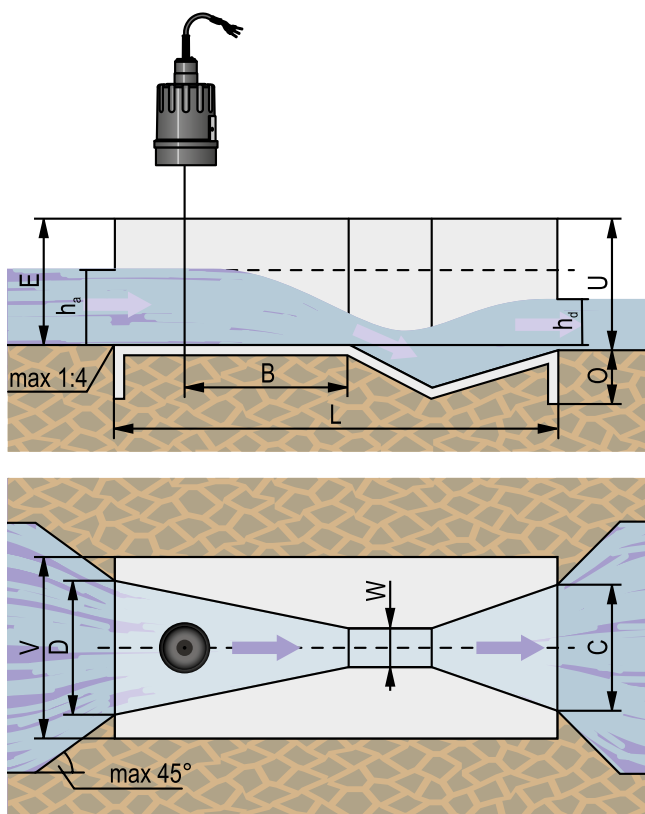

Figure 1.
- A flow homogenization section – basically a straight one without any disturbing object/effect – of 2...3 times the flume width (D) should be ensured before the flume inlet. The same should be provided at the flume outlet with a length of 3...4 times the flume width (C), but at least 5 m (16.4 feet) straight section. At these sections, the shapes of the cross-section of the channels should be regular and symmetrical to the longitudinal axis. When installing the Parshall flume, its corresponding sides should be connected with the sidewalls and the bottom of the channel to be measured. The angle between the connecting plates and the axis of the Parshall flume should not be larger than 45°. The tilt angle of the bottom connecting plates should not be larger than 15° (see Figure 1).